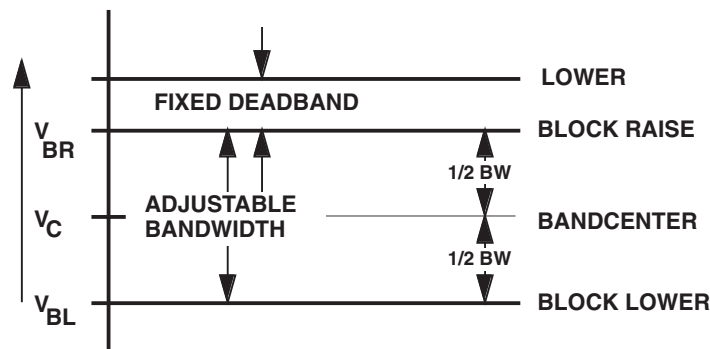

Figure 1 Setpoint Voltage Levels
3. Lower the voltage if the regulated voltage goes above the Block Raise setpoint by a fixed bandwidth, as shown in Figure 1.